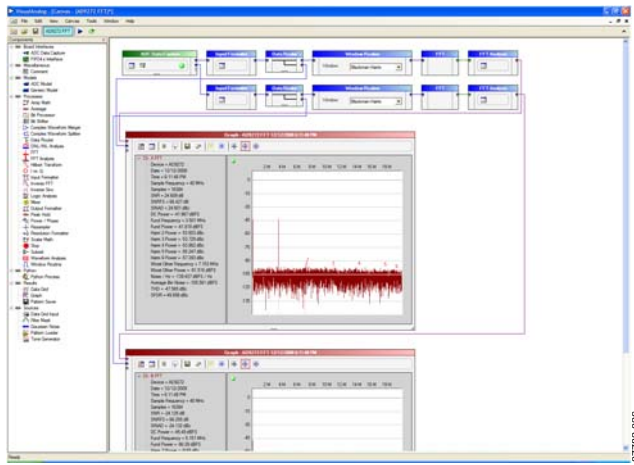
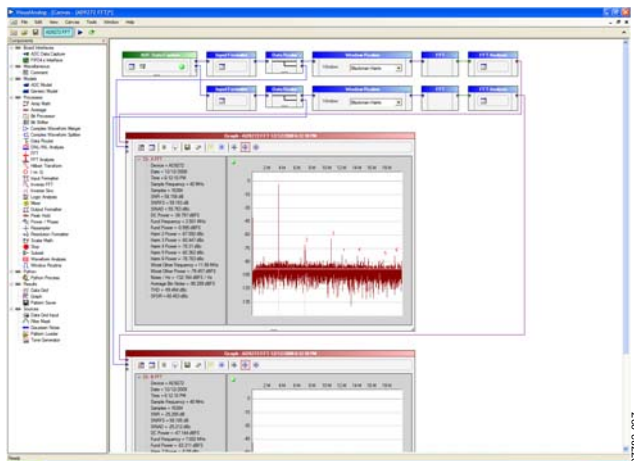

Figure 15. VisualAnalog, Graph Window
Figure 16. VisualAnalog, Formatted FFT Plot
1. Adjust the amplitude of the input signal so that the fundamental is at the desired level. (Examine the **Fund Power** reading in the left panel of the **VisualAnalog FFT** window.) If the gain pin voltage is too low, it is not possible to reach full scale without distortion. Use a higher gain setting or a lower input level to avoid distortion. This also depends on the PGA gain setting, which can be 30 dB, 27 dB, 24 dB, or 21dB. See Figure 15 and Figure 16.